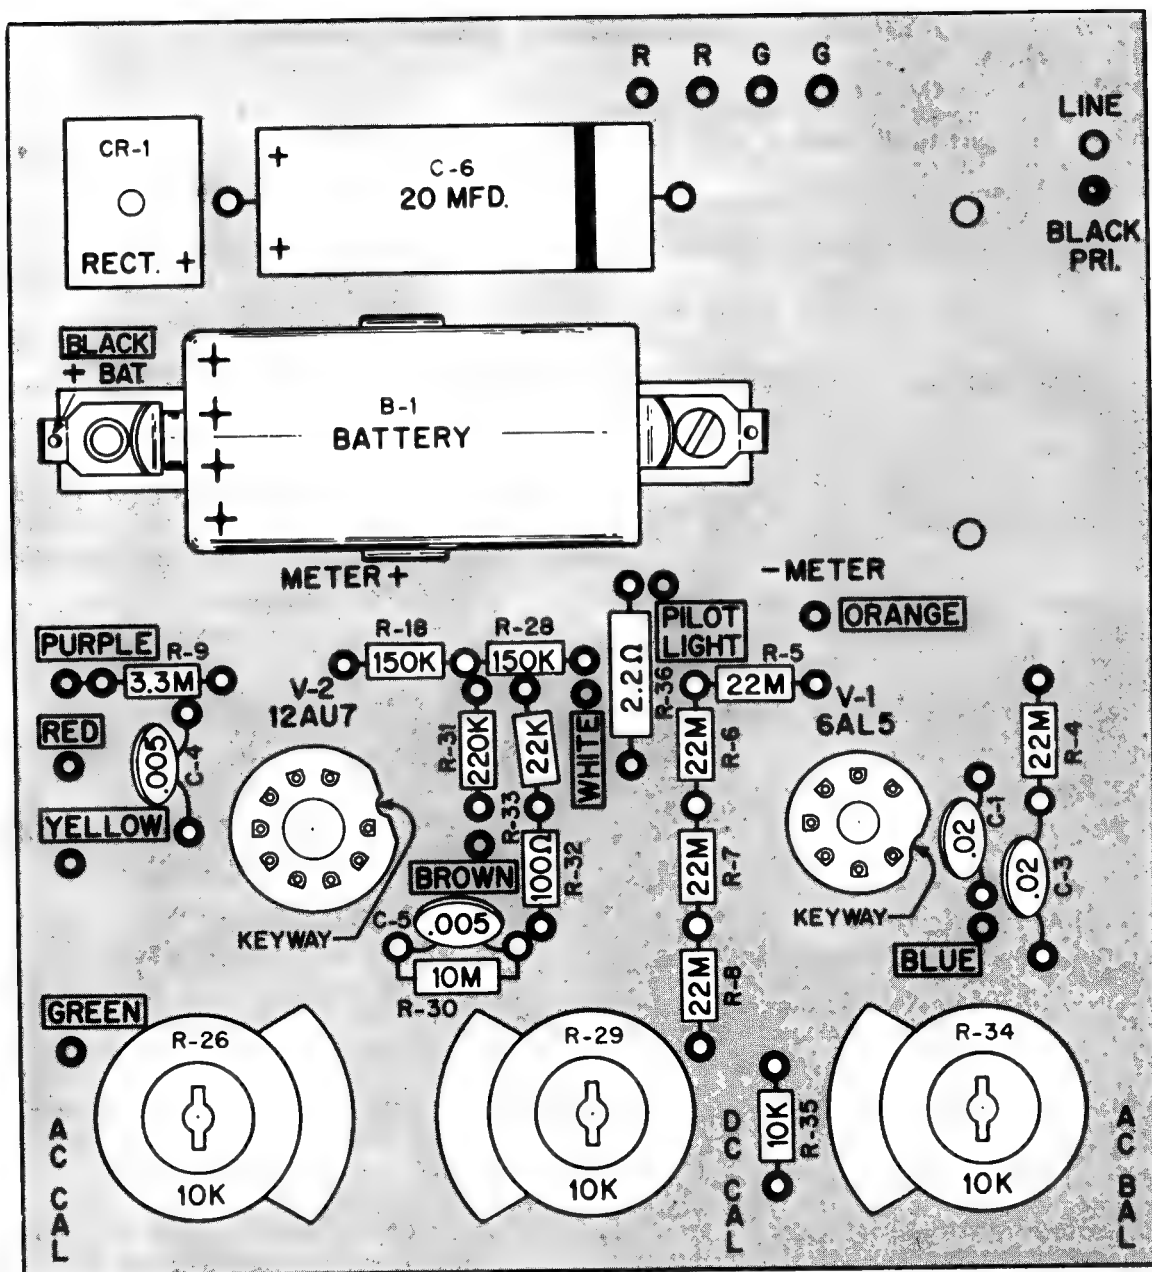

FIGURE 11. MOUNTING THE PARTS ON THE PRINTED CIRCUIT BOARD
1. **INSERT** the wire leads of the parts through the holes as shown in Figure 11.
### SEE FIGURE 11.
### SEE FIGURES 11 AND 12.
- ( ) Mount R-9, 3.3 Megohm resistor (orange, orange, green) as shown in Figure 11.